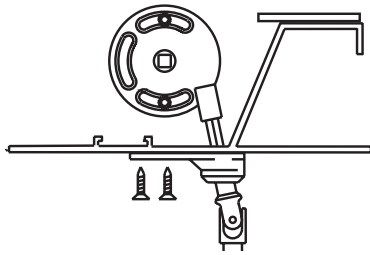

Figure 9
- ② Install the lower roller in the same manner.
- ③ To cover multiple openings, a single headbox may be separated into compartments. Repeat steps one and two for each compartment.
- ④ Insert crank shaft through the L.H. and/or R.H. bottom closure end brackets and into crank gear, then attach cranks to end brackets (see Fig. 9).